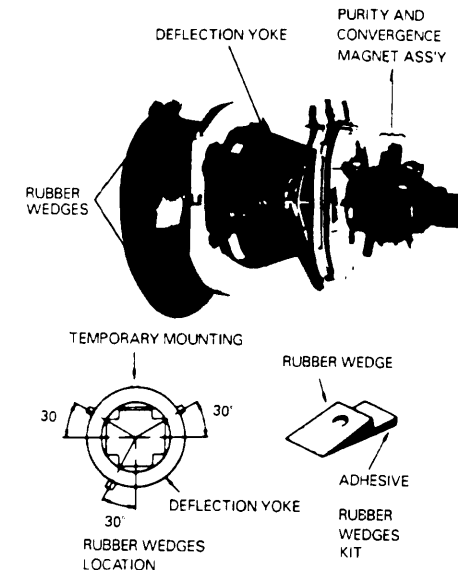

Fig 12.
Caution: Convergence and purity have been factory aligned. Do not attempt to tamper with these alignments. However, the effects of adjacent receiver components, or replacement of picture tube or deflection yoke may require the need to re-adjust purity and convergence. Convergence magnet assembly and rubber wedges need mechanical positioning following figure 12.
- 2: Adjust DY to obtain a better convergence in the circumference by orbital movement of the front of the yoke, then secure the DY in appropriate position by placing the wedges as shown in fig. 12. Tighten the screw holding the DY. Stick 3 adhesive tapes on wedges as shown in fig. 12.